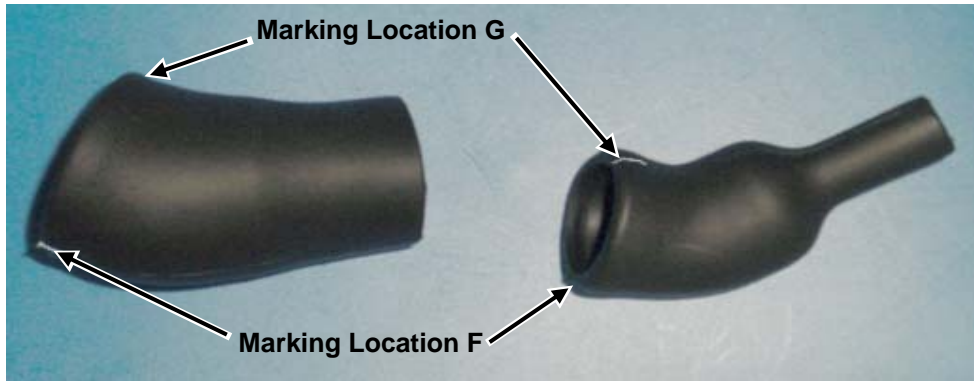

Figure 2b. Molded Boot Strain Relief Markings (Before and After)
5. Mark the Raychem spin lock molded boot (strain relief) at the parting line, as mark F on upper surface, and as mark G, on lower surface, using mold marks as the reference point. See Figure 2b and Table 1.